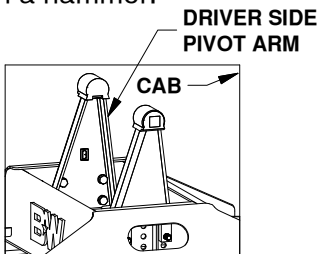
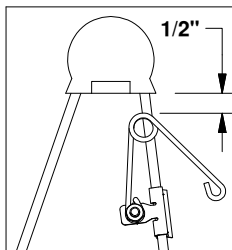

Figure E3:
Figure E4: Driver
2. **Attach kit.** Locate the flange which will be closest to the truck cab on the driver side pivot arm, see Figure E3. The clip should be placed so that when the spring's coil is in the line with the edge of the arm there will be 1/2" of clearance between the bottom of the polyurethane bushing and the top of the spring, see Figure E4. Drive the clip securely onto the flange with a hammer.